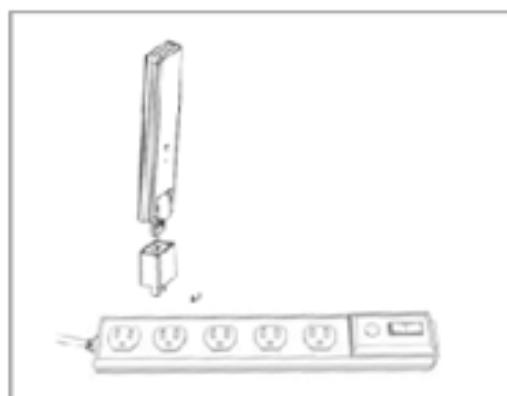

Figure 2
- b. If using Power Strip, please make sure it is placed at least 1 meter above the ground and try to install the DTU 90 degrees vertical to the ground as much as possible (figure 2).